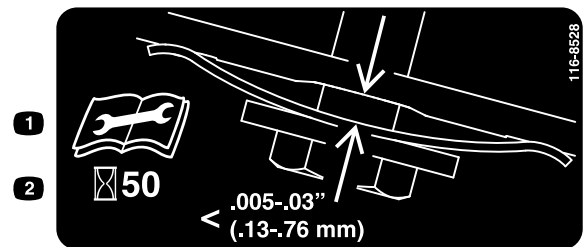

Figure 35
3. Hold a feeler gauge set between 0.005 and 0.03 inches (0.13 and 0.76 mm) against the wall and slide it down behind the belt tension spring; refer to Figure 35.